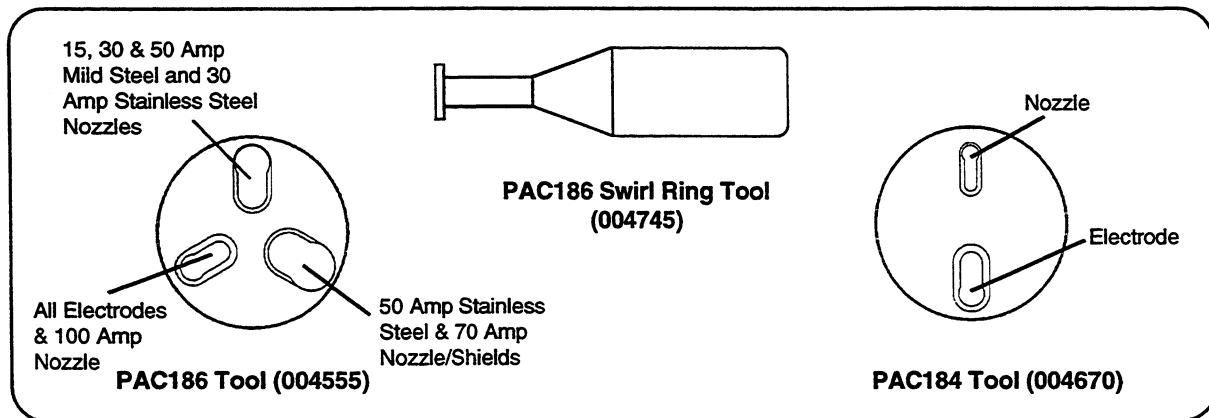

Figure 4-7 Consumable Removal Tools
4. Remove the electrode using the removal tool. The electrode should be inspected and replaced if there is a pit .040 inch (1 mm) deep. See Figure 4-7 in order to check the pit depth. Check the O-ring for wear and damage.